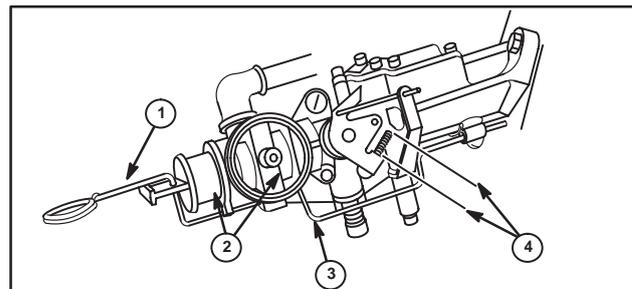

Fig. 60
Pull lever (1) to full choke position (2). The distance between throttle stamping and throttle screw stop (4) must be $\frac{9}{16}$ " (14.27 mm). To adjust, bend linkage where shown (3), Fig. 60.